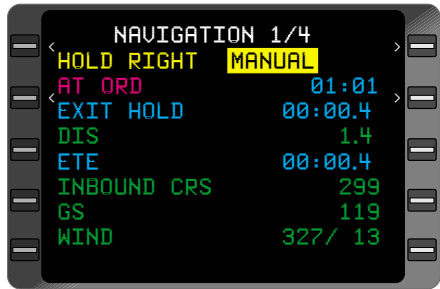

Figure 3-112
2. Line Select Key - DEPRESS to position the cursor over **MANUAL**. (Figure 3-112)